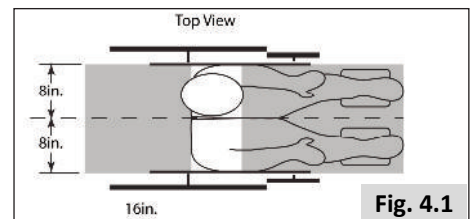

Fig. 4.1
3. The recommended clear zones for wheelchair seated occupants restrained by both pelvic and upper-torso belt(s) and only by a pelvic belt are shown in the diagrams (Fig. 4.1 and 4.2) and described below. Frontal Clear Zones (FCZ) need to be larger when upper torso belt(s) are not used. The Rear Clear Zone of 16" (40.5 cm) is measured from the rearmost point on an occupant's head. The Frontal Clear zone is measured from the front most point of an occupant's head and is 26" (66 cm) with pelvic and upper-torso belt(s) and 37" (94 cm) with only a pelvic belt. The frontal clear zone may not be achievable for wheelchair-seated drivers.